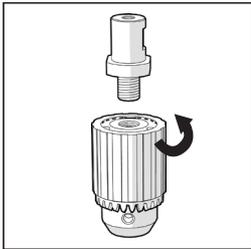

Fig. 10
- Screw the 3 jawed chuck into the threaded bore of the chuck adaptor. (**Fig. 10**)